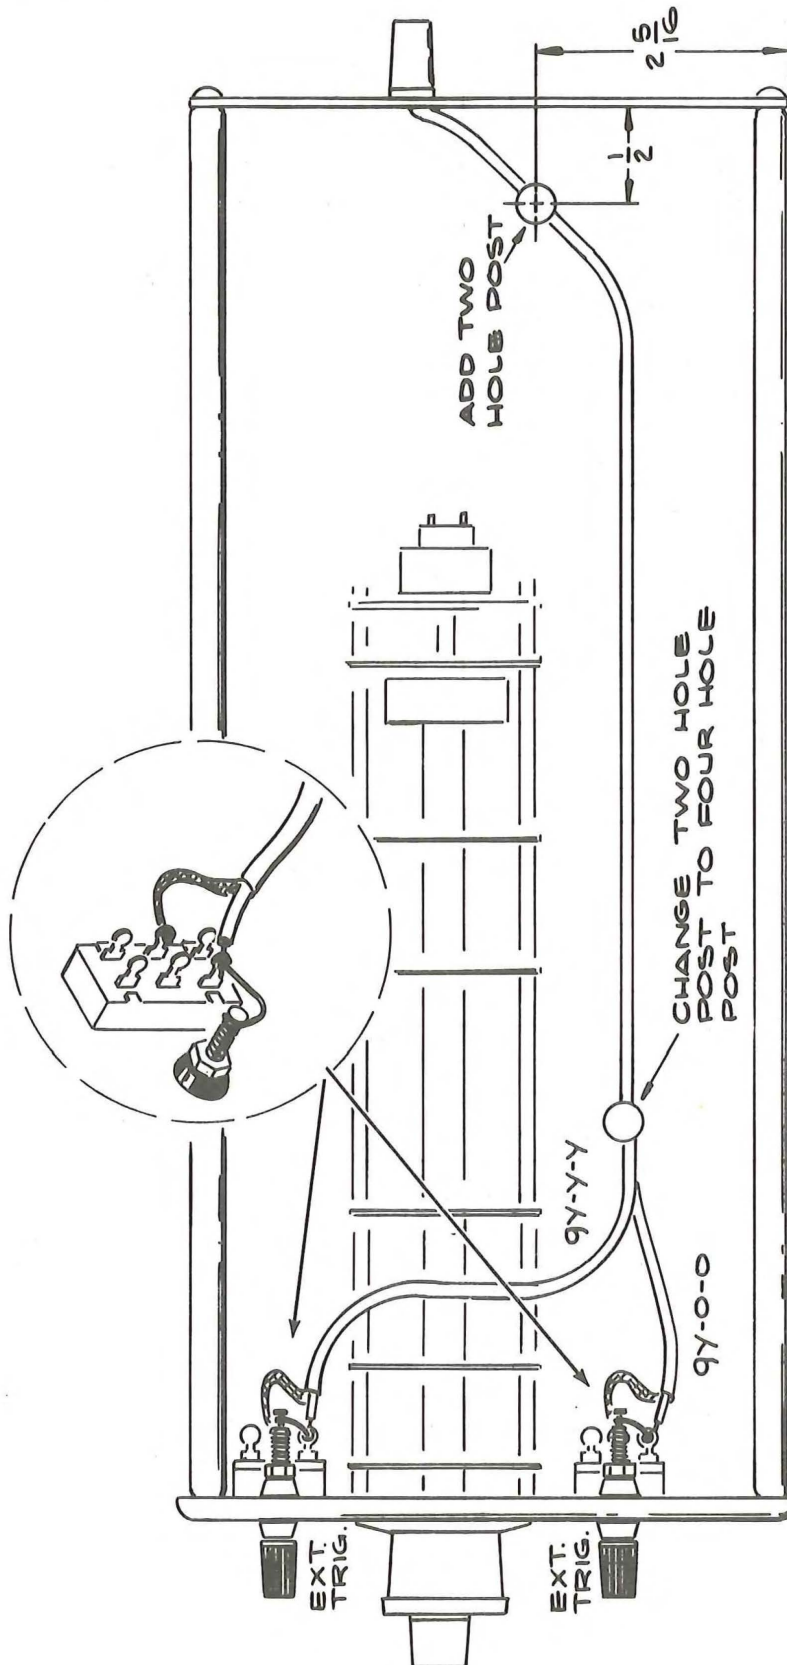

Fig. 9 3B1
Refer to Fig. 9.
- ( ) 4. Drill a 5/32 in. hole at the rear of the chassis, as shown in Fig. 9.